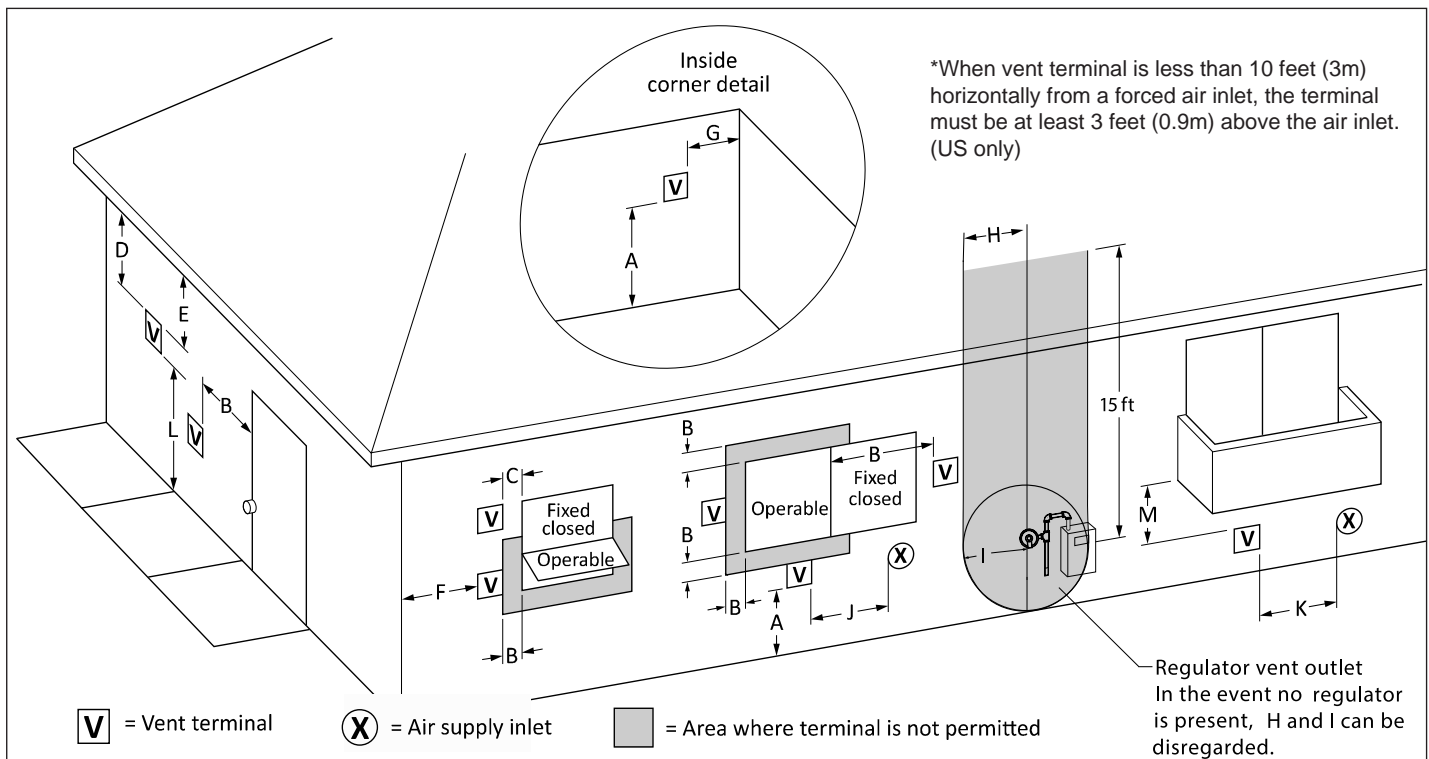

Figure 1. Combustion Air and Vent Through Side-wall.
1. Figure 1 shows the requirements for mechanical vent terminal clearances for the U.S. and Canada.